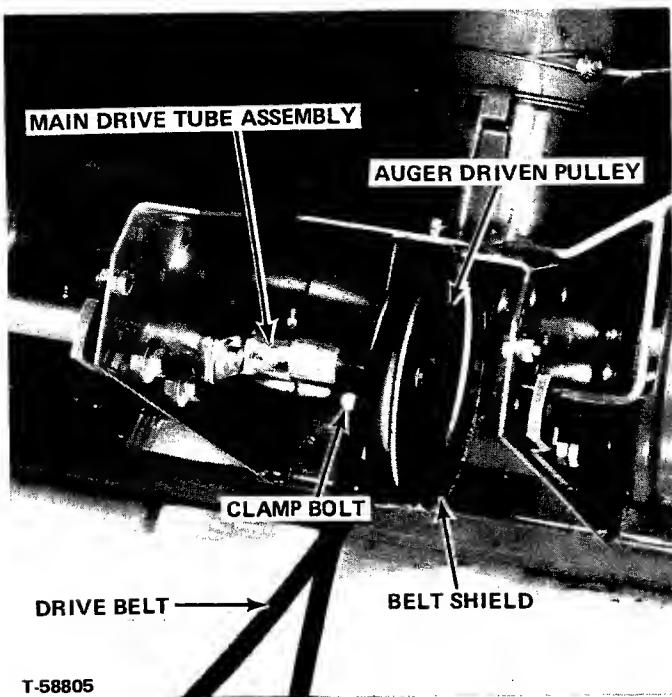
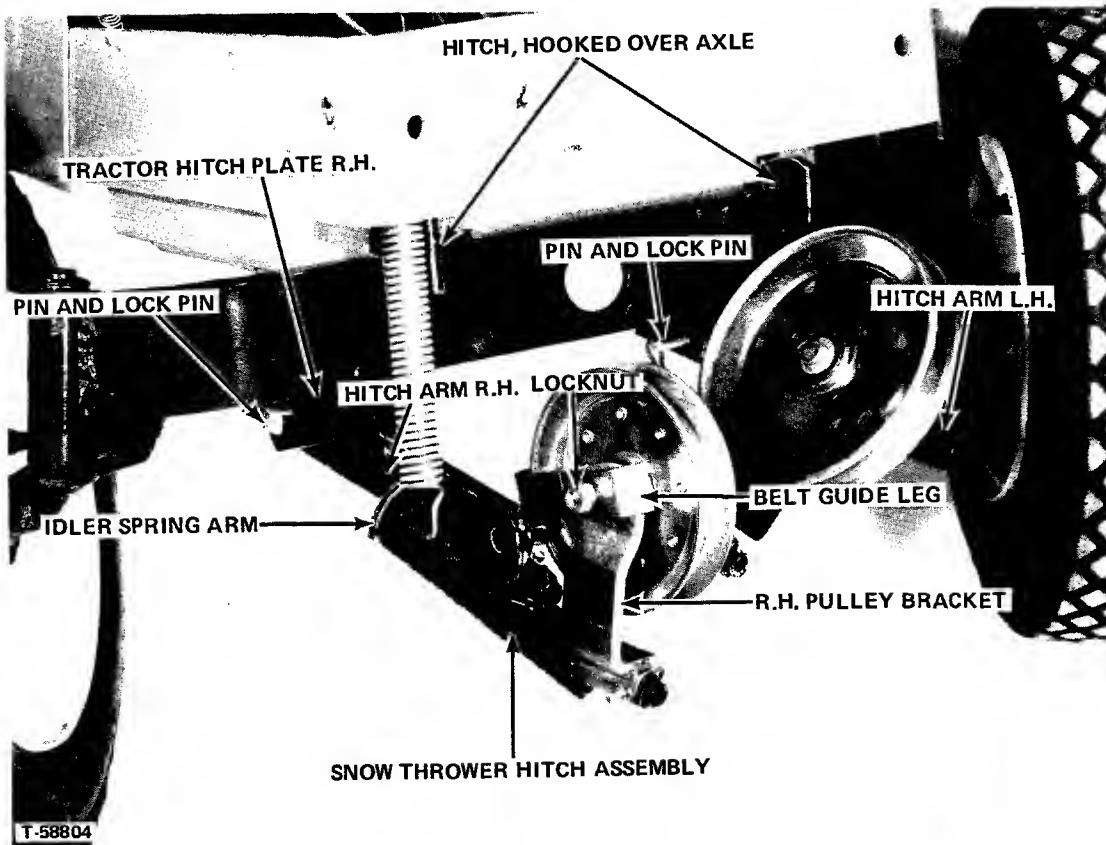
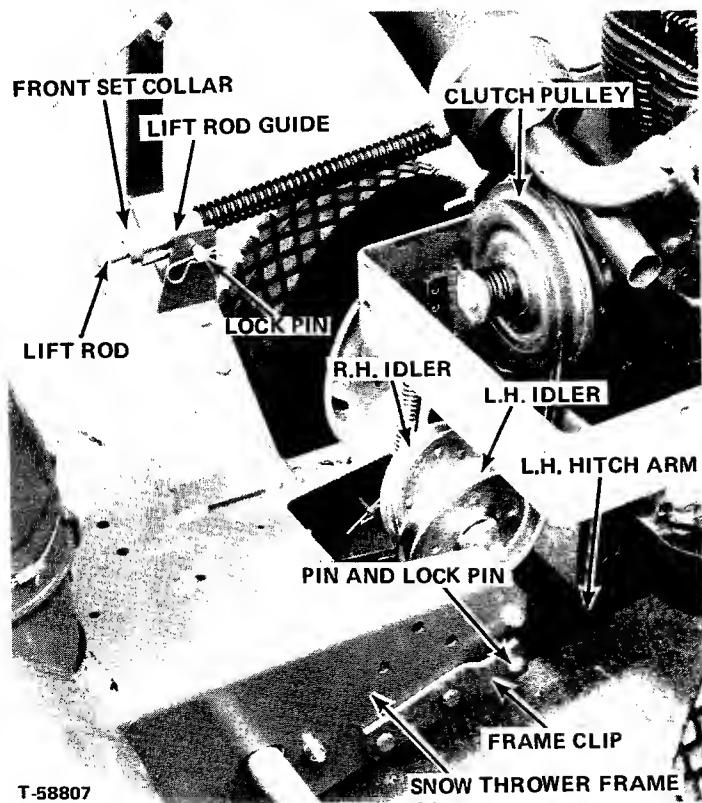

FIGURE 7
FIGURE 8 - (Tractor Hood Removed for Visibility)
FIGURE 9 - (Tractor Hood Removed for Visibility)
2. Install the snow thrower hitch assembly on the front of tractor as shown in Figure 8. Hook the top of hitch frame over top of tractor axle and attach right hand and left hand hitch arms to right hand and left hand tractor hitch plates with pins and lock pins.
3. Locate snow thrower assembly in front of tractor, check that drive belt is over auger driven pulley and under belt shield as shown in Figure 7. Position snow thrower frame and frame clips over front end of left hand and right hand hitch arms and attach with pins and lock pins as shown in Figure 9.
7. With left foot, step down on outer end of idler spring arm, (Figures 8 and 10), to raise right hand idler and give belt slack, then loop the "V" side of belt over the clutch pulley on end of engine crank-shaft (Figures 9 and 10).
8. Locate the belt guide on right hand pulley as shown in Figures 8 and 10 with front leg of guide against and parallel to the front edge of the right hand pulley bracket. Tighten locknut.
6. Count the number of turns of front cable on the control rod spool. Wrap the rear part of cable around the rear of control rod spool with the same number of turns. Pass end of rear cable around back of spout and loop it around stud outside of flat washer. Place cupped washer with the cut out side over the looped end of cable and hold in place with lockwasher and nut. While holding the spout pointing straight front, pull the cable end tight with a pair of pliers, turn cupped washer so that the rear cable end enters and leaves through the cut out portion of washer. Tighten nut securely. Bind loose end of cable to rear cable with plastic tape as shown in Figures 9 and 10.